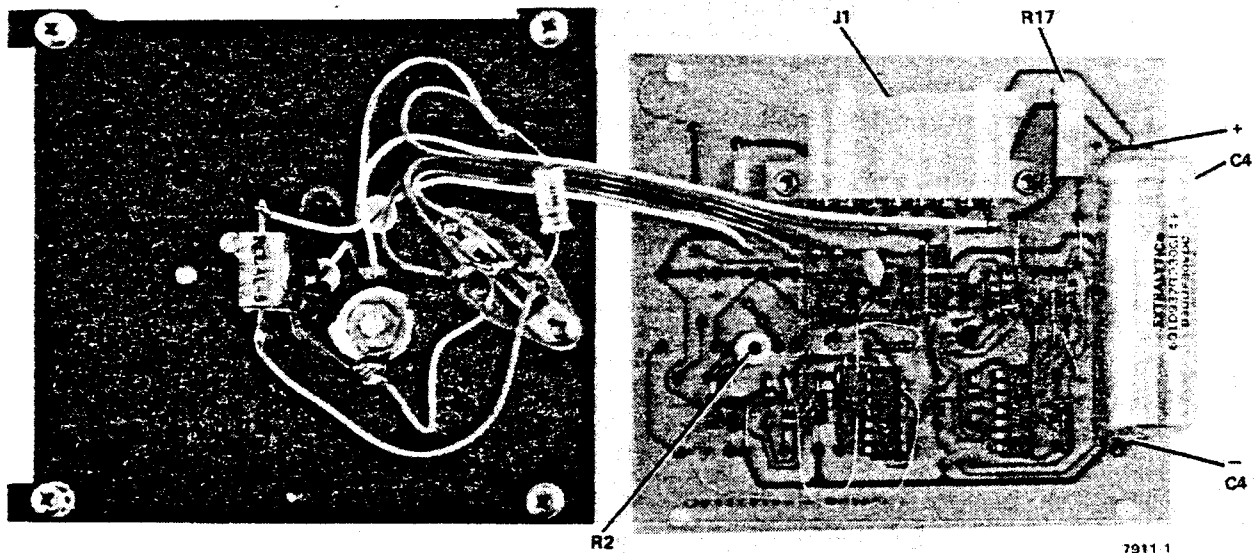

Figure RK05J-A1 8-20 Volt Regulator
1. Locate the + 15V Regulator, remove it from the RK05 unit and separate it as shown in Figure RK05J-A1, so R2 can be adjusted.